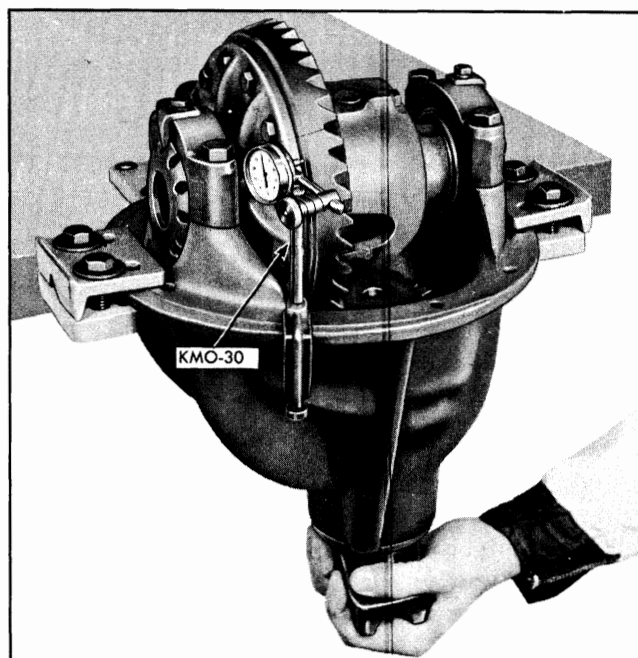

Fig. 4-19 Checking Ring Gear Run-out with KMO-30 Set
2. Mount dial indicator on backside of ring gear as shown in Fig. 4-19 and check ring gear runout. Runout should not exceed .002". Excessive runout could be the result of warped ring gear or mounting flange on case, worn side bearings, misaligned carrier cross-bore, or burrs on case mounting flange or side bearing hubs.
5. Mount dial indicator on backside of ring gear as shown in Fig. 4-19 and check ring gear runout. Runout should not exceed .002". Excessive runout could be the result of warped ring gear or mounting flange on case, worn side bearings, misaligned carrier cross-bore, or foreign material or burrs on case mounting flange or side bearing hubs.